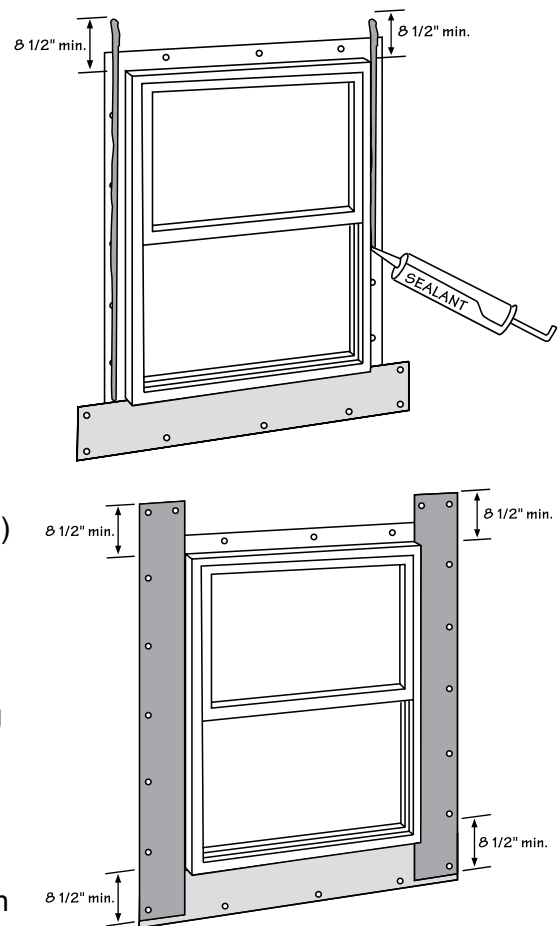

Figure 32.
- Apply a continuous bead of sealant to the nailing flange of the jambs in a manner that covers the nails and nail slots. Continue the bead of sealant at the jambs vertically a minimum of 8 1/2" (216mm) above the head of the window to allow for bedding the top portion of the jamb flashing into sealant in the next step. Install the jamb flashing by pressing the flashing into the sealant beads at the window jambs. Extend the bottom edge of the jamb flashing approximately 1/2" (12.7mm) short of the sill flashing edge, and extend the top edge approximately 8 1/2" (216mm) beyond the head of the window, where the head flashing will be placed next. Fasten the jamb flashing along the edges further most from the window (Fig. 32).